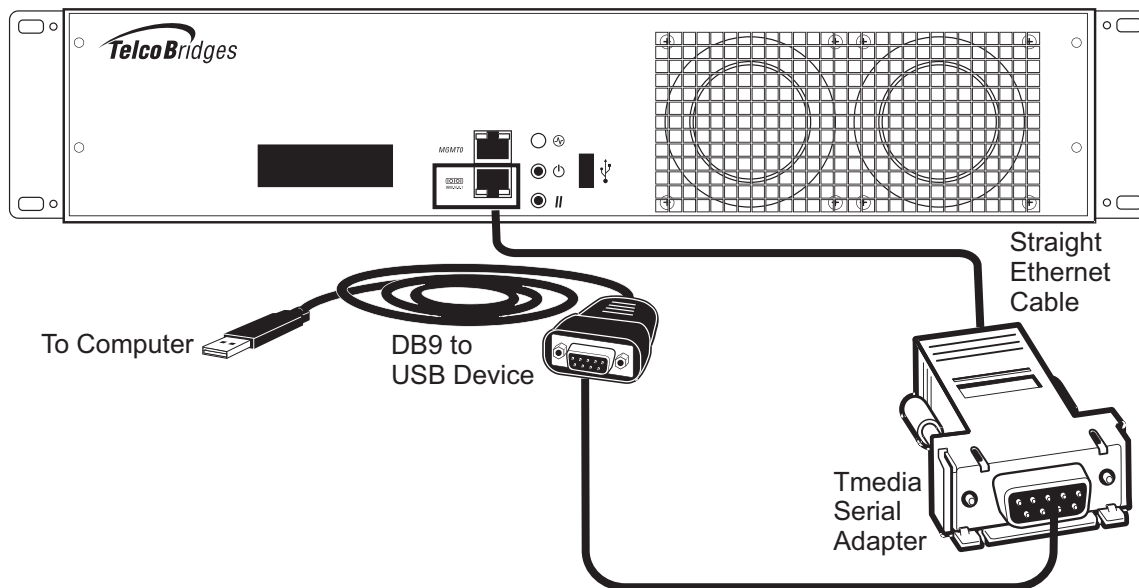

Figure 3.2 Conceptual View of a Serial Connection from the 3200 Series Gateway to a Computer
2. If your computer's serial port features a DB9 connector, use the Tmedia serial adapter supplied with your 3200 series gateway. If your computer's serial port features a USB connector, you will need to provide a USB to DB9 adapter. Refer to figure 3.2 on page 58.